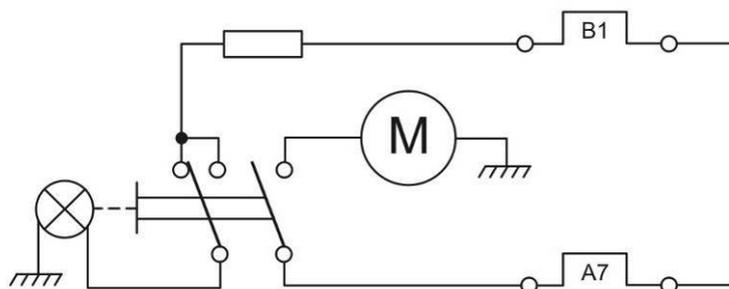

Figure 76 Windscreen Washers
**185. Windscreen Washer.** When the ignition is switched on, power is supplied to circuit breaker A7. When the washer (Figure 76) is switched on, power is applied to drive the washer pump motor. At positions 1 and 2 of the main light switch, power is supplied via circuit breaker B1 to illuminate the washer switch light.